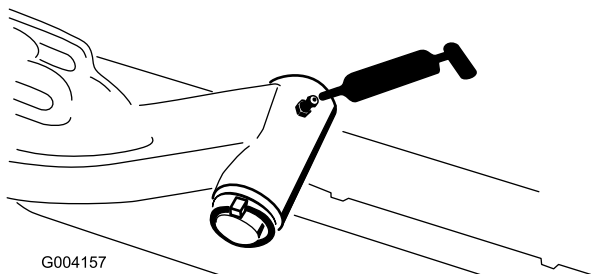

Figure 54
- Lift arm pivot shaft (1 each) (Figure 54)